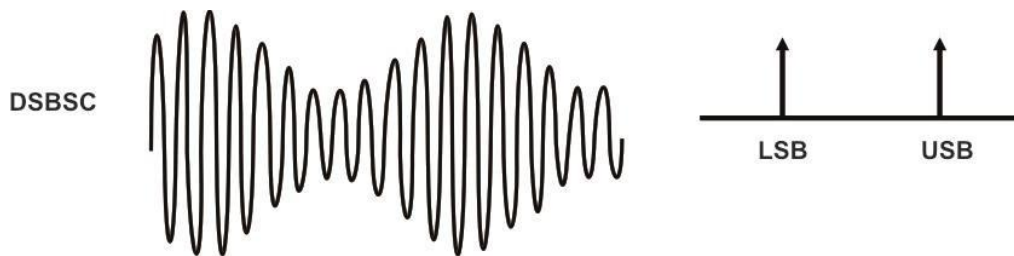

Fig. 5
7. Vary the Frequency and Amplitude of Audio generator and observe the changing in the modulated waveform as shown in Fig. 5.